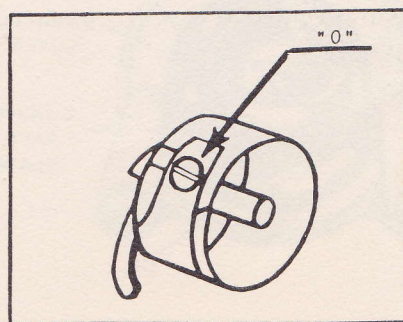

Fig. 39
This is always set at the factory and under ordinary use should never require changing. When the bobbin thread tension has once been properly adjusted, changes are seldom necessary, as change of needle tension on top control normally produces the correct stitch. Bobbin thread tension is regulated in the following manner: To increase tension, turn screw, (O) Fig. 39, located on the bobbin tension spring, to the right. To decrease tension, turn screw to the left.